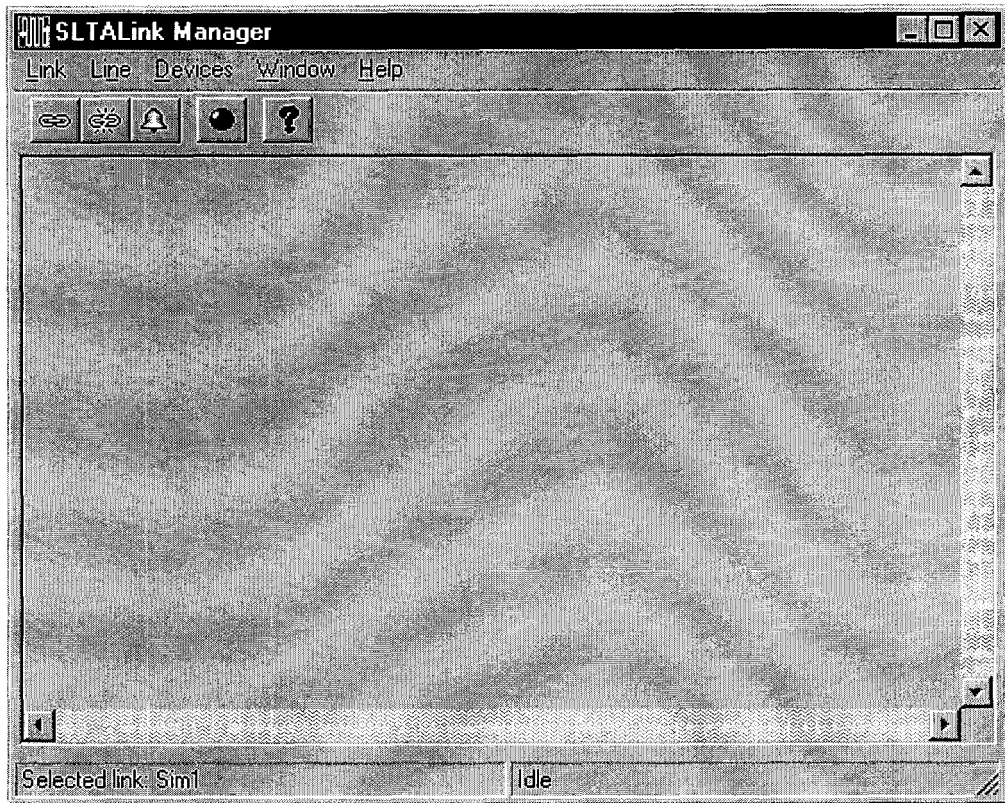

Figure 11.10 Results of a Proper Connection to a Remote SLTA-10
12. Attach the remote SLTA-10 modem to the telephone network. The SLTA-10 is now configured to dial-in and perform the network management functions required to diagnose and maintain the network just as if there was a local connection between the host PC and the remote site. To establish the remote connection, connect the modem of the PC operating the network management tool (i.e., LonMaker for Windows tool) to the telephone network, select the remote link just defined using the Link.Select> menu function, and click on the Connect speed button. A successful remote connection is shown in figure 11.10. The network management application can now connect to the SLTALON1 device.